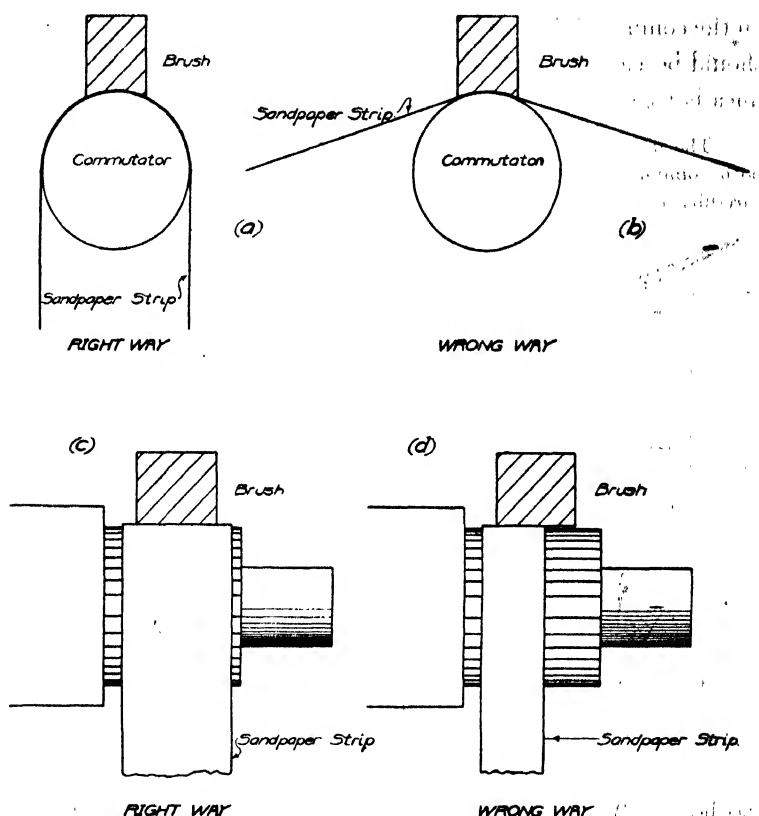

Fig. 261. Method of Sanding-In Brushes
**Seating the Brushes.** To insure proper operation of the machine either as a generator or as a motor, it is necessary that the brushes fit the commutator exactly and that they make good contact over their entire surface. If they do not, sparking will occur and the commutator will become burned and blackened, cutting down the efficiency of the machine. The brushes are the only wearing parts of a direct-current generator or motor, and, as this wear on them is constant, they will require attention at intervals to keep them in good condition. Whenever sufficient wear has taken place to make the contact uneven, the brushes must be fitted to the commutator or *sanded-in*. Cut a sheet of No. 00 sandpaper in strips slightly wider than the brush. Emery cloth must *never* be used for this purpose. It is metallic and will tend to cause short-circuits in the commutator. The strip of sandpaper is wrapped around the commutator so as to make contact with at least half of its circumference in the manner illustrated in (a) and (c) of Fig. 261. The smooth side of the paper is laid on the commutator so that the sanded side rubs the brush. By drawing the sandpaper back and forth, it is possible to fit the brush very accurately to the commutator. It will be obvious that if the sandpaper be applied to the commutator, as shown in (b) and (d) of the same illustration, that the brush will only touch at its center and there will be excessive sparking between the gaps thus formed.